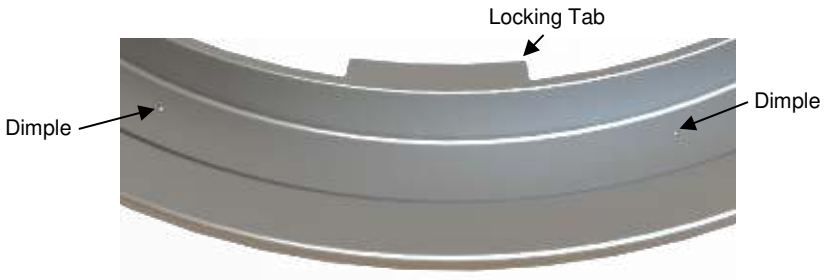

Figure 3: Locate Dimples (Top down view)
- 3.) Install connector flange on applied butyl (Fig. 1) & apply slight downforce. Locate the (8) dimples on the inner ring of the connector (Fig. 3). Drive (8) screws from bag "A" down into the existing pipe through dimples. For concrete applications, drill (8) 5/32" diameter holes (using carbide tip masonry bit) downward through the (8) dimples of the connector flange at least 2" deep into the existing surface. Procure (8) concrete fasteners (Specs: 3/16" x 1 3/4") and install.